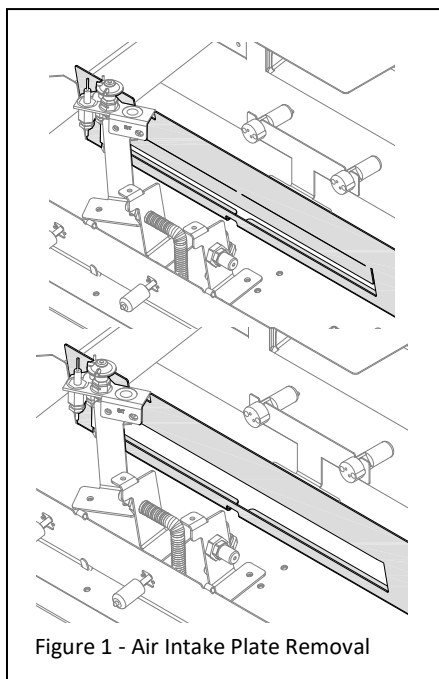

Figure 1 - Air Intake Plate Removal
1. The air intake plate is mounted to the control board. Bend at the perforation until the plate breaks off and discard. The top image in Figure 1 shows the plate as shipped and the bottom image shows the perforated metal piece removed.